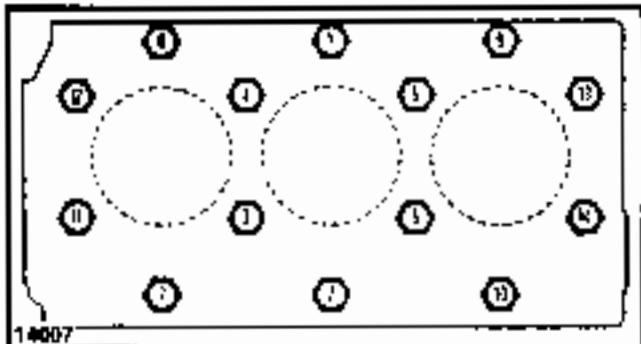

FIG. A.1/7 CYLINDER HEAD TIGHTENING SEQUENCE (See Torque Specification Table.)
4. Install the capscrews and torque them following the sequence illustrated in Fig. A.1/7 and to the values given in the "Torque Specifications" table.